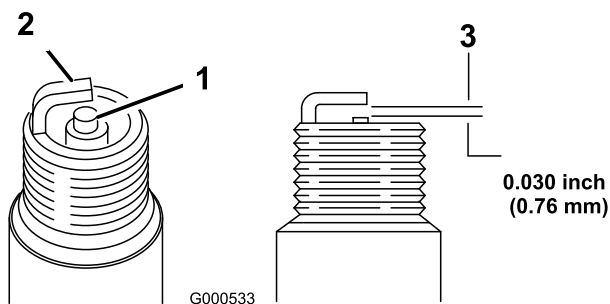

Figure 37
5. Set the gap on the plug to 0.030 in. (0.76 mm) (Figure 37).